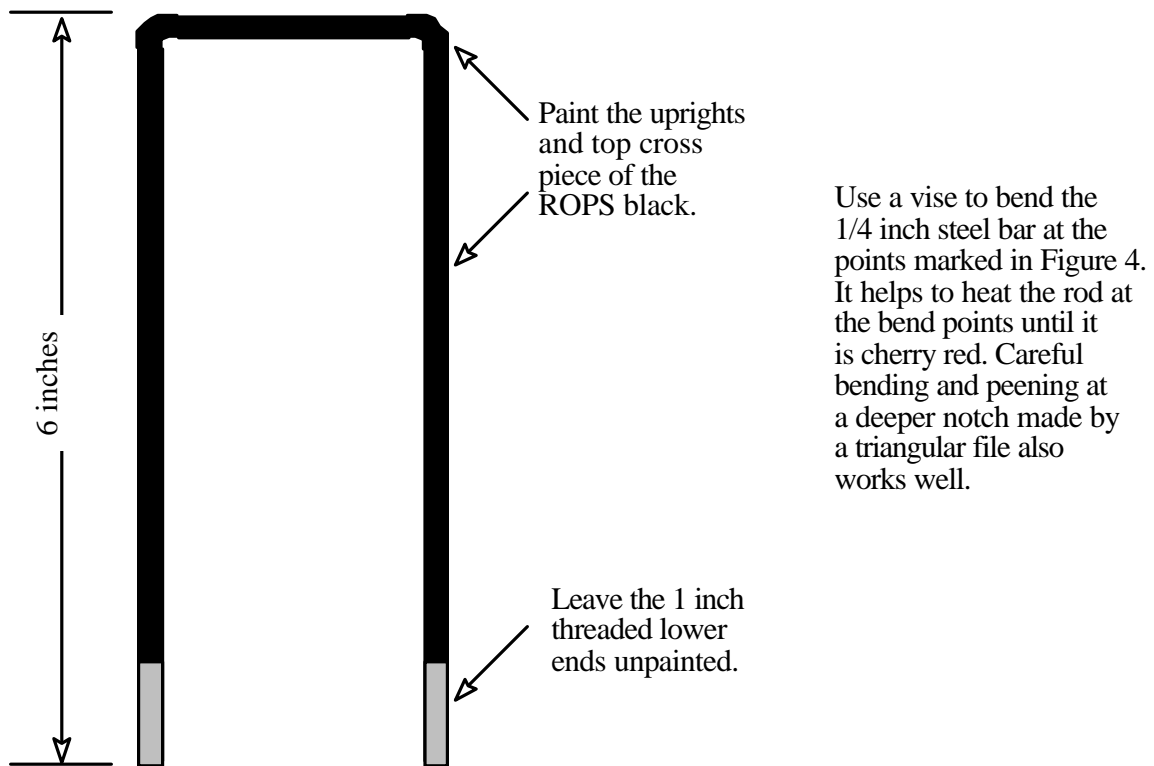

Figure 5: Dimensions of finished model ROPS
4. Make two marks on the same side of the steel rod 5 1/2 inches from each end. Place one end of the steel rod upright in a vise. Heat the rod with a torch at the 5 1/2-inch mark and bend the rod inward to achieve a 90-degree angle. Repeat the procedure for the other end of the rod. Bend the rod to the dimensions listed in Figure 5. Be careful to make the bends 90 degrees each and in the same plane to keep the upright portions of the two sides parallel. If bent properly, the U-shaped rod should lie flat on the workbench or tabletop. If you don't have a torch to heat the rod, notch the inside bend of the rod with a triangular file at the two marks 5 1/2 inches from each end of the rod. Then bend each 6-inch end of the rod to a 90-degree angle using a vise to hold the 6-inch upright portion close to the notch. Gently bend and tap the rod with a hammer until a fairly tight-rounded bend brings the top portion of the ROPS to a 90-degree angle with the 6-inch upright side. Repeat the process for the other side. Again, be careful to keep the upright portions of the two sides of the bent rod parallel and in the same plane.
7. Remove the model ROPS. Paint the unthreaded portion with a flat black paint. Do not paint the threaded ends (see Figure 5). Allow the paint to dry and then reinstall the ROPS on the model tractor.